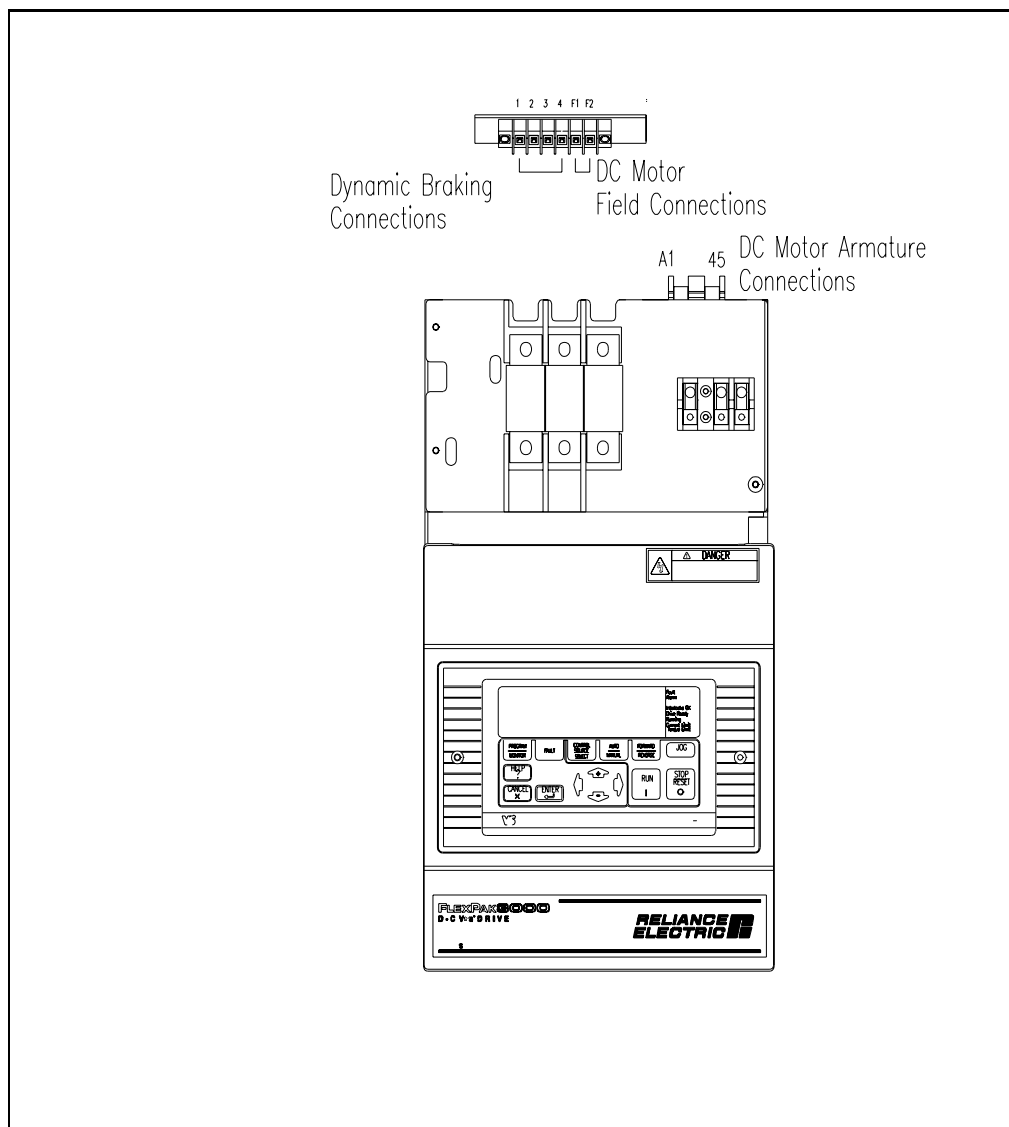

Figure 2.18 – DC Drive Motor Field and Armature Connection Locations
- Step 3. **(Integrator drives only)** Connect the line fuses (1FU, 2FU, 3FU), field fuses (6FU, 7FU, 8FU), and the FN contactor to the drive as shown in figure 2.18. Note that the line and field fuses must be wired as shown in figure 2.18 to ensure proper phase relationships.
- Step 2. Locate the DC motor armature and field supply leads on the drive. Refer to figure 2.18 to 2.21.